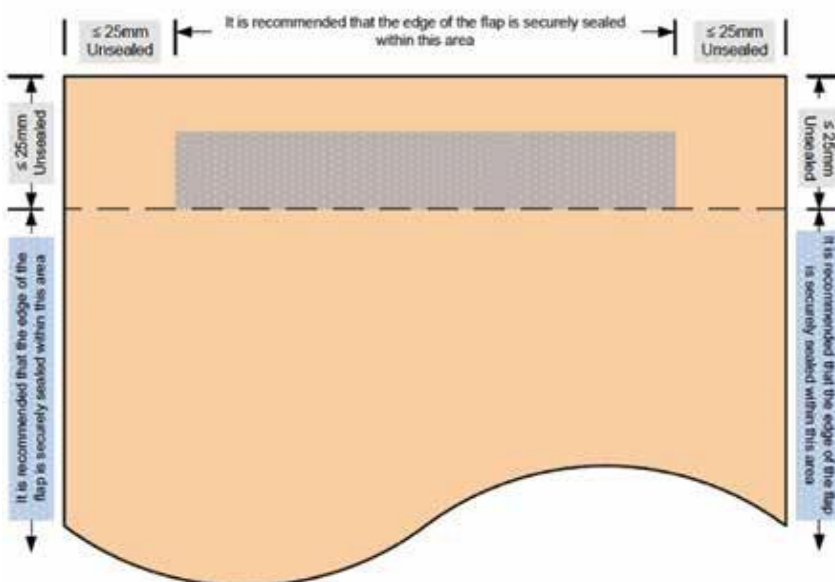

Figure 21 Sealing tolerances polymer
- The opening flap is sealed to within a minimum of 25mm from the fold of the envelope flap and 25mm from the sides of the envelope (see figure 21)